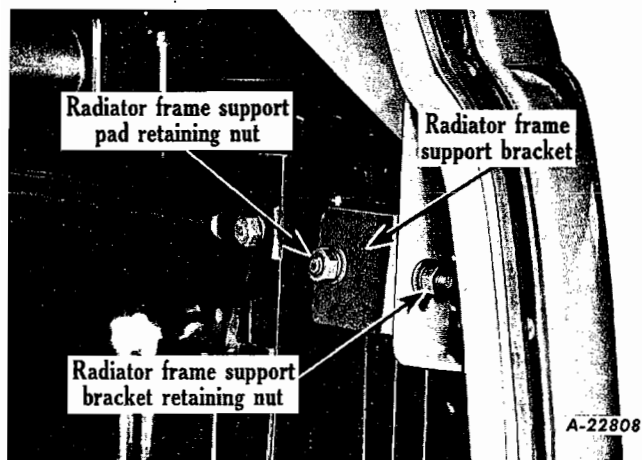

Fig. 70
4. Remove radiator frame support pad rear retaining nuts and washers on both sides of radiator (Fig. 70).
5. Loosen radiator frame support bracket retaining nuts at radiator shell to facilitate removal of brackets from radiator frame support pads (Fig. 70).